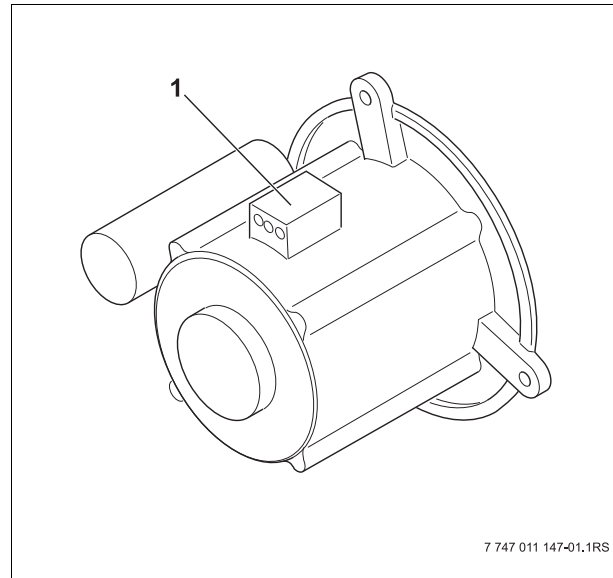
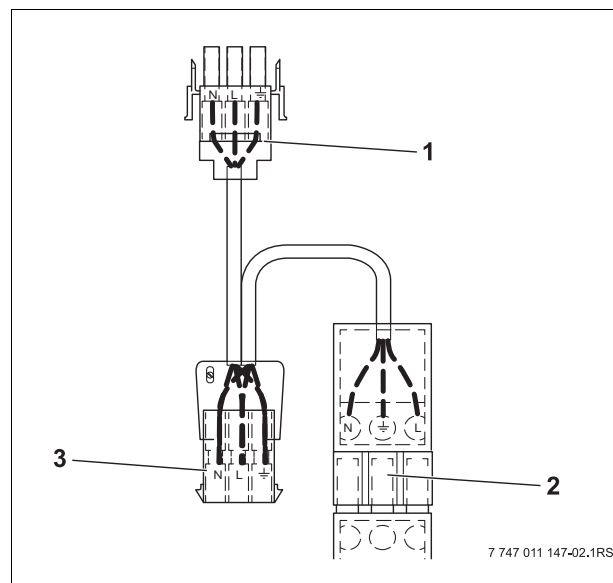

Fig. 1 Burner motor
Fig. 2 Adapter
- Adapter (→ Fig. 2)
- Remove plug from burner motor socket (→ Fig. 1, [1]).
- Plug male end of the adapter (→ Fig. 2, [1]) in the socket of the burner motor (→ Fig. 1, [1]). Observe that the plug is keyed.
- Connect male burner cable plug into the female end of the adapter (→ Fig. 2, [3]). Again observe that the plug is keyed.
- Make the connection from the adapter terminal (→ Fig. 2, [2]) to the accessory, e.g. the neutralizer. If an extension cable is needed, use 3-conductor 14 AWG appliance cable approved for the application. Ensure that the correct polarity is used: Neutral - Ground - Hot.